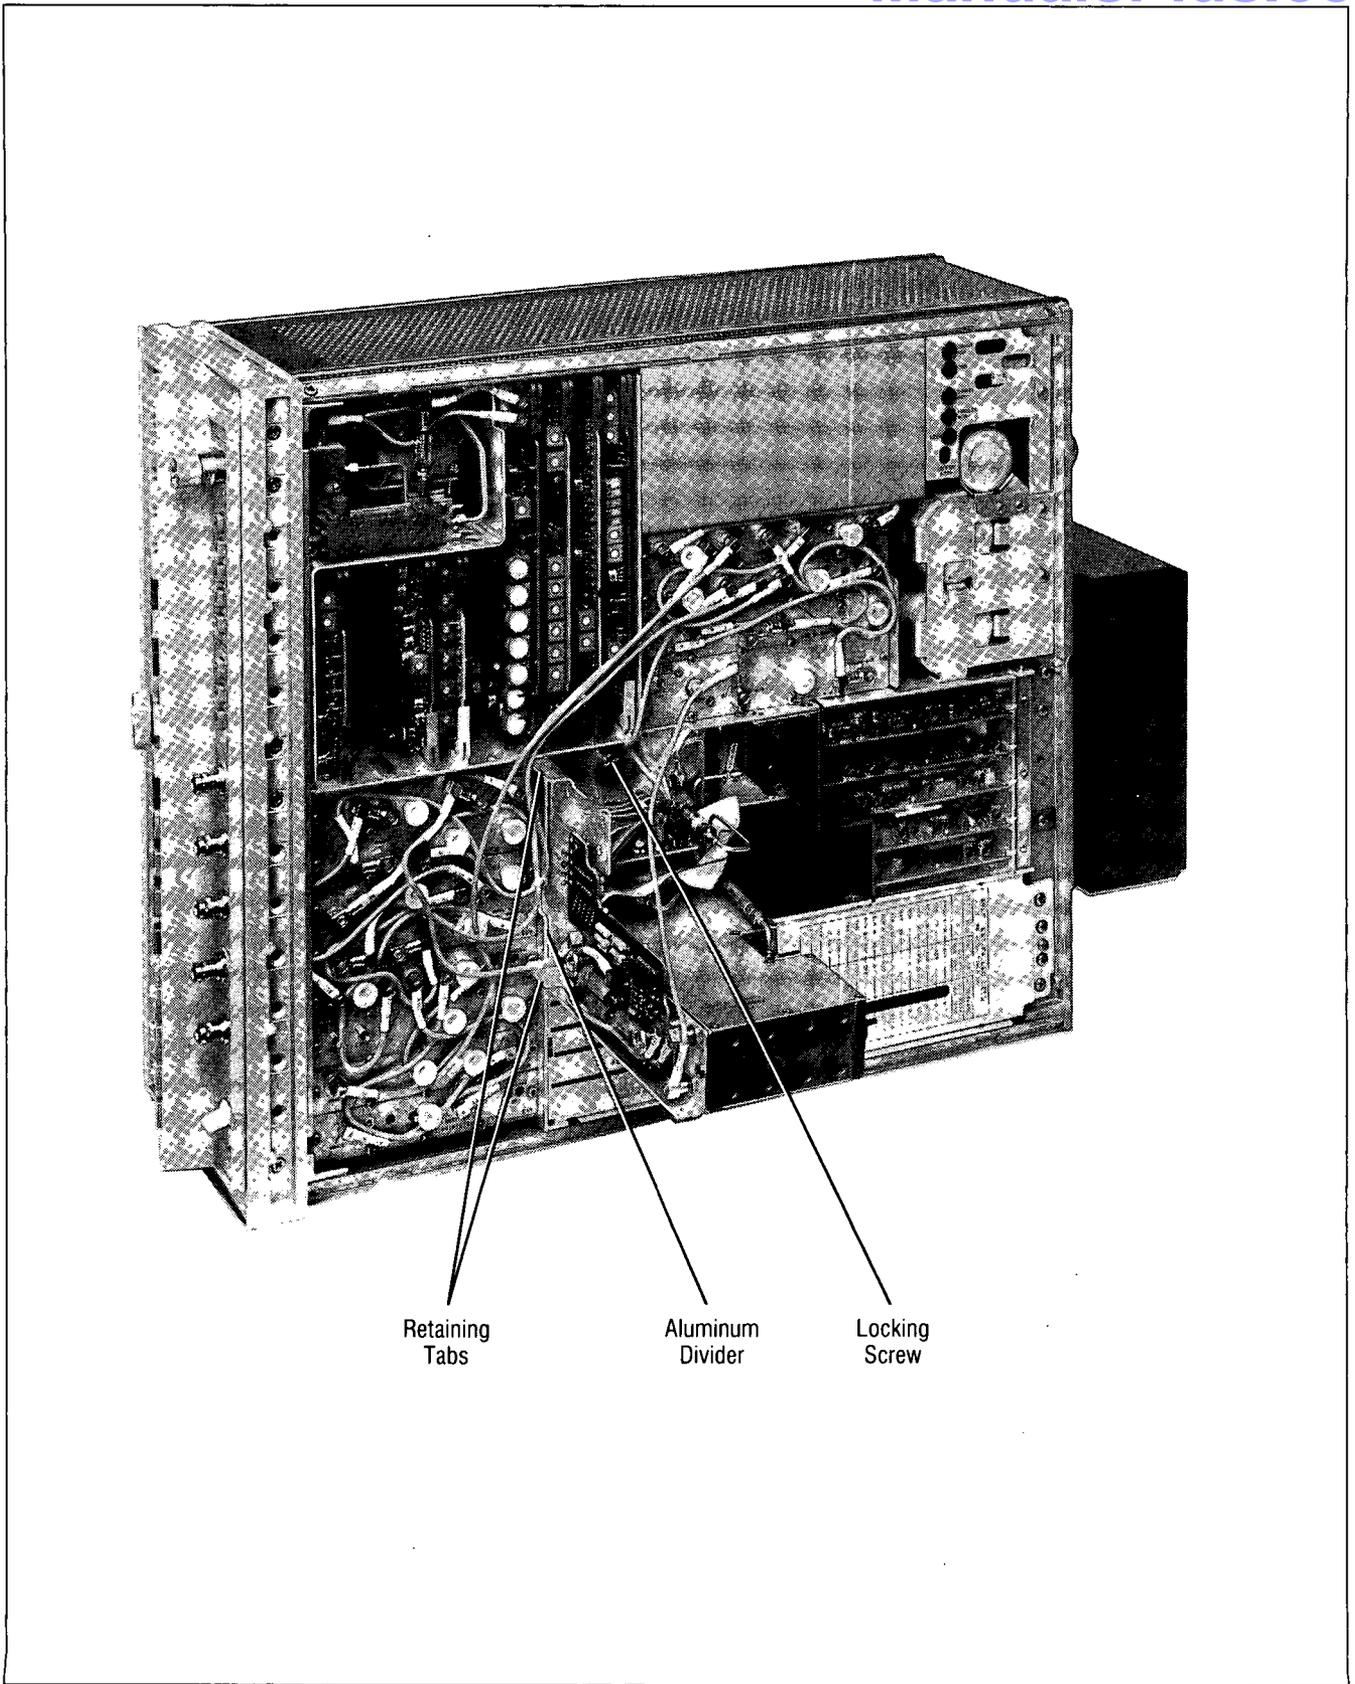

Figure D-10. YO Loop in Service Position
4. Refer to Figure D-10, YO Loop in Service Position, before proceeding. Gently pull on the YO loop while moving it from side-to-side. Do not use excessive force. Remove the YO loop assembly and hold it upright. Set the retaining tabs over the adjacent aluminum divider. The locking screw can now be engaged to hold the YO loop securely in place. Replace the cables going to A49J2 and A49J3.